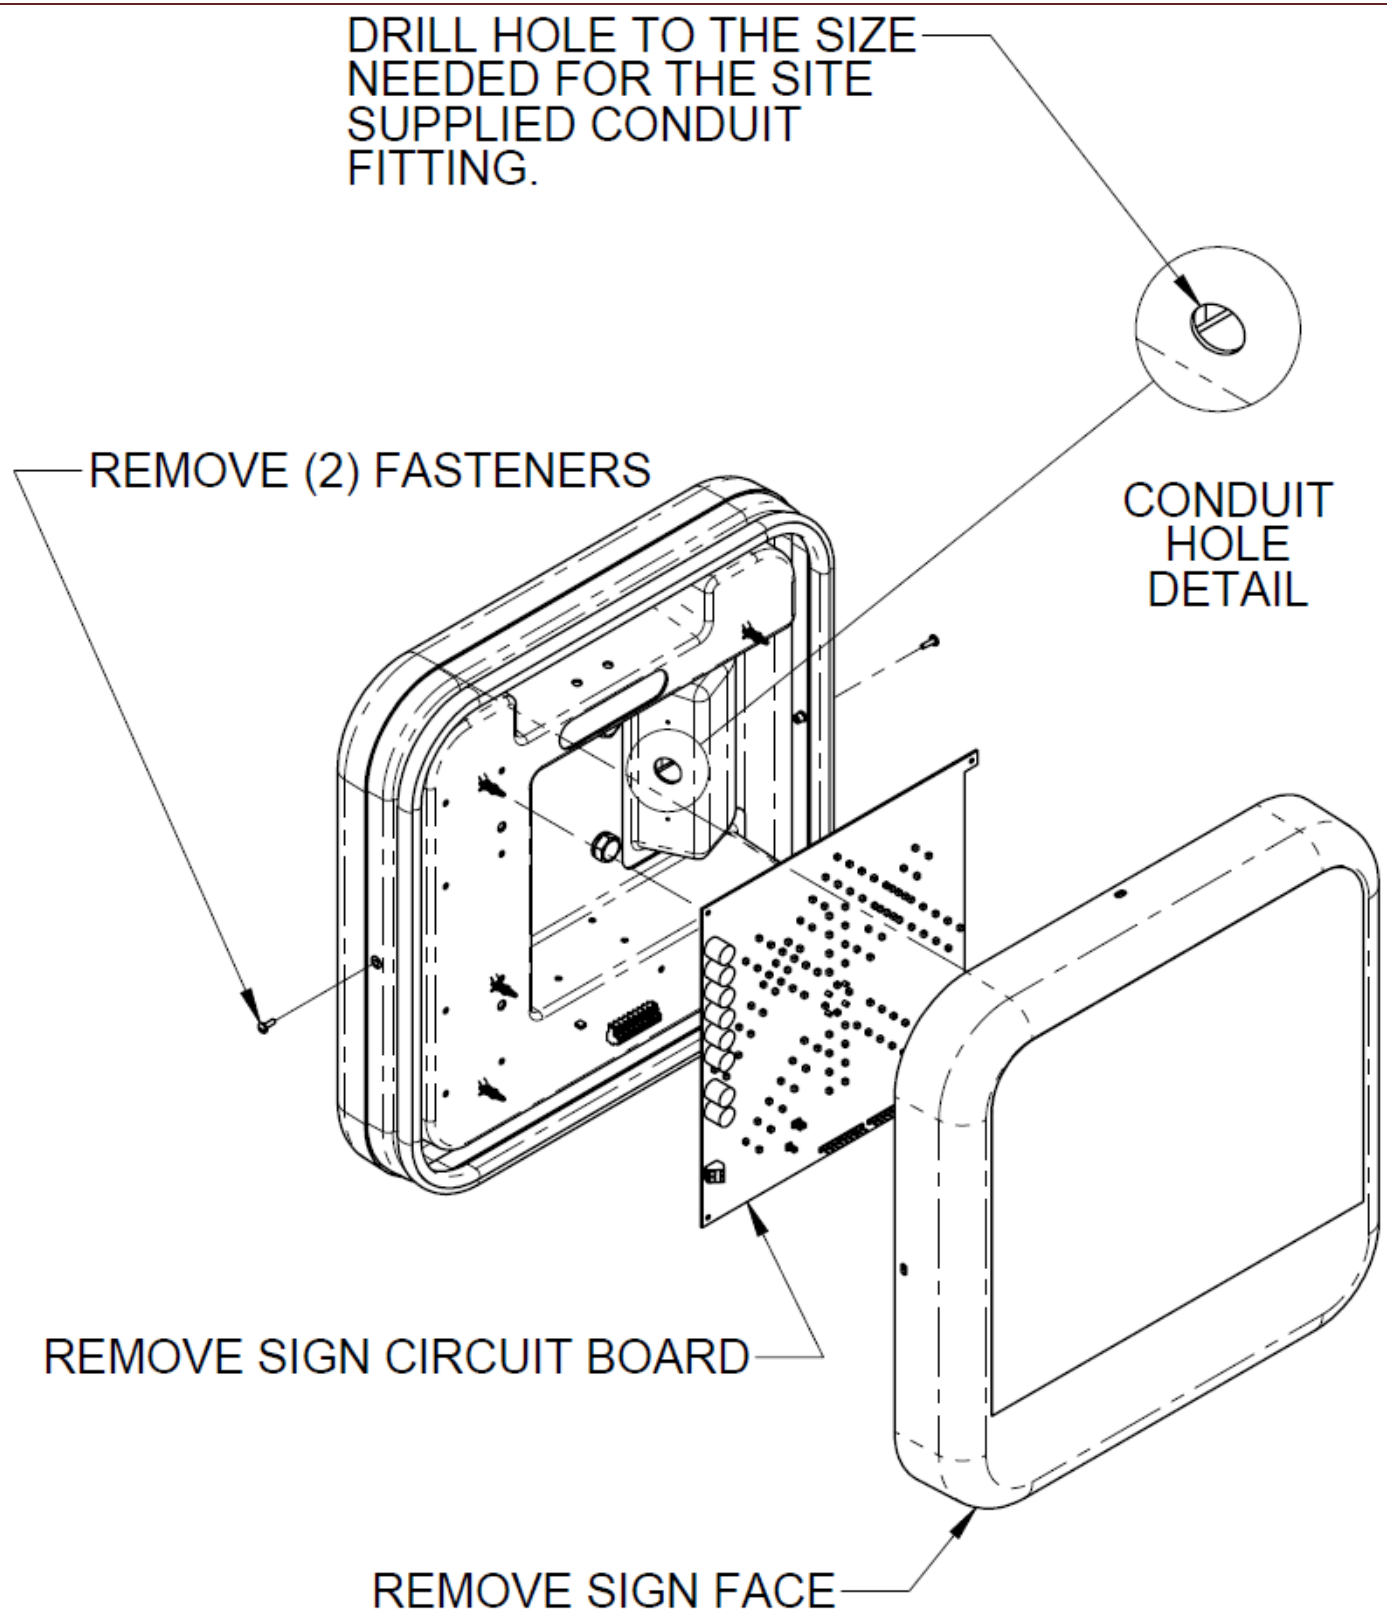

Figure 192 - Entrance Sign Preparation for Installation
- To add the connector to the Entrance Sign housing, Figure 192: